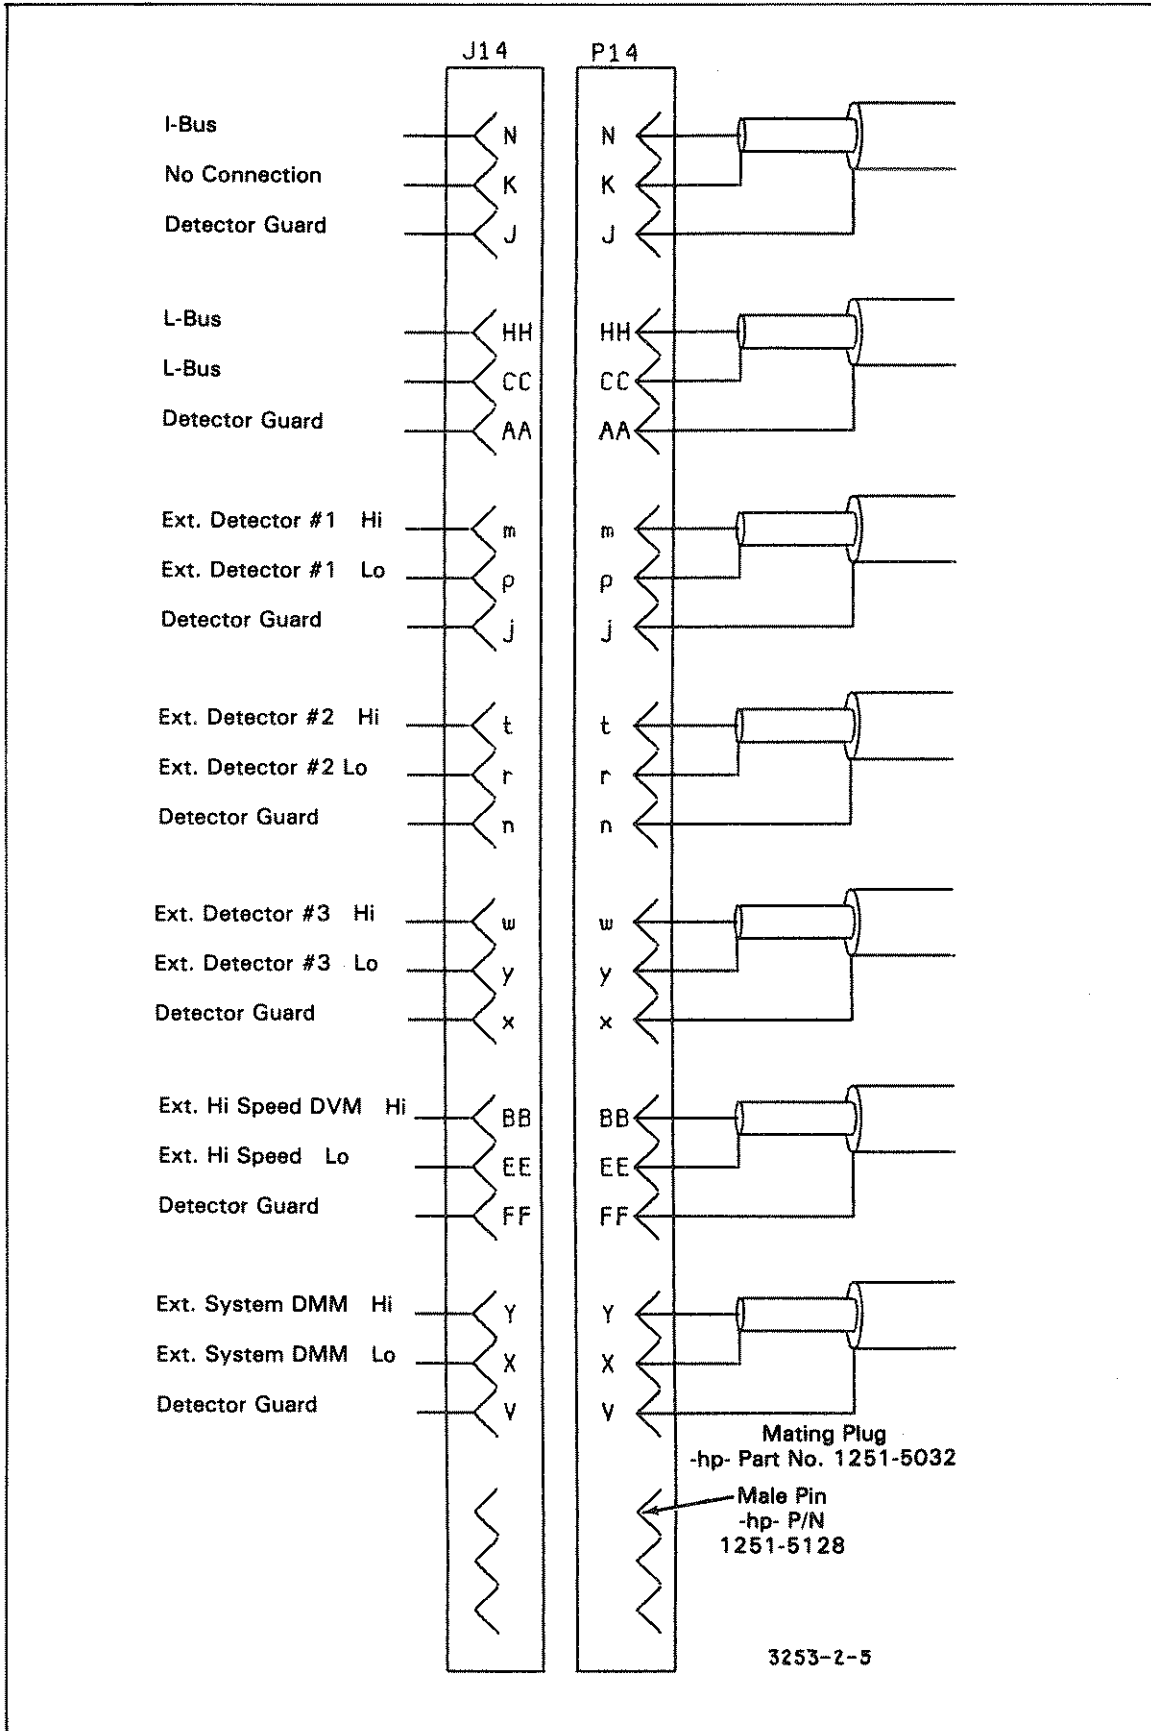

Figure 2-5. J14 Wiring Diagram.
- ⚠ ② J14 Response Connector (in 3060A System connects to P14). Refer to Figure 2-5 for connector wiring.
- ③ HP-IB Connector.
- ④ Sync output, BNC connection for TTL level trigger out.